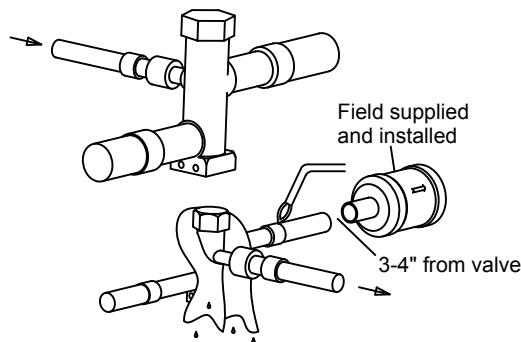

Figure 8-4
4. Wrap a wet rag around the valve body to avoid heat damage and continue the dry nitrogen purge (Fig. 8-4).